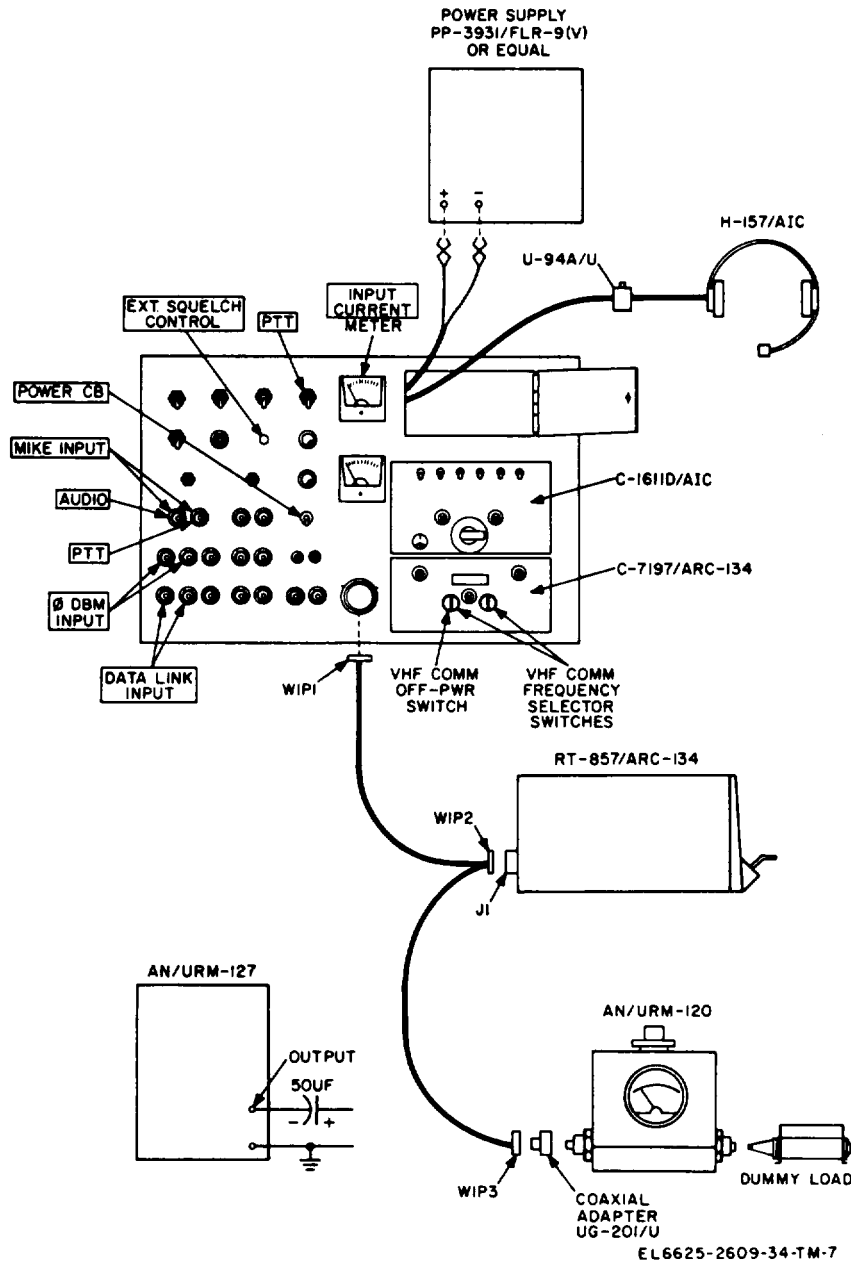

Figure 3-6. Transmitter circuit test setup.
equipment as shown in figure 3-6. The AN/URM-127 is not used in this test. Place the C-1611D/AIC transmit-interphone selector switch in position 3, the RECEIVERS 3 switch ON, all other
(6) Dummy Load, Electrical DA-75/U.
b. Test Connections and Conditions. Connect the equipment as shown in figure 3-6. The AN/URM-127 is not used for this test. Place the C-1611D/AIC transmit-interphone selector switch in position PVT, the RECEIVERS 3 switch ON, all other RECEIVERS switches off, and position the VOL control as required. These settings must be maintained during the test.
(7) Dummy Load, Electrical DA-75/U.
b. Test Connections and Conditions. Connect the equipment as shown in figure 3-6. Connect AN/URM-127 through 50- μf capacitor to MIKE INPUT jacks on test panel (capacitor to AUDIO jack). Place the C-161/DAIC transmit-interphone selector switch in position 3, the RECEIVERS 3 switch ON, all other RECEIVERS switches off, and position the VOL control as required. These settings must be maintained during the test.
b. Test Connection and Conditions. Connect the equipment as shown in figure 3-6. Connect the AN/URM-127 to test panel 0 DBM INPUT jacks through the 50-uf capacitor (capacitor to HI jack). Place the C-1611D/AIC transmit-interphone selector switch in position 3, the RECEIVERS 3 switch ON, all other RECEIVERS switches off, and position the VOL control as required. These settings must be maintained during the test.
- (1) Radio Set AN/ARC-134.
- (2) Power supply,
- (3) Wattmeter, Radio Frequency AN/URM-120.
- (4) Generator, Signal AN/URM-127.
- (5) Adapter.
- (6) Capacitor, 60 uf, 25 vdc.
b. Test Connections and Condition. Connect the equipment as shown in figure 3-6. Connect AN/URM-127 through the 50- μ f capacitor to test panel DATA LINK INPUT jacks (capacitor to HI jack). Place the C-1611D/AIC transmit-interphone selector switch in position 3, the RECEIVERS 3 switch ON, all other RECEIVERS switches off, and position the VOL control as required. These settings must be maintained during the test.